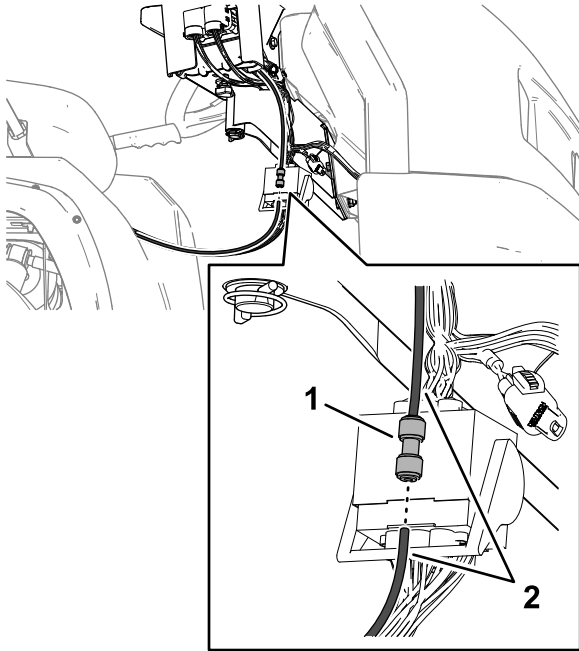

Figure 133
1. Insert the pressure-sense tube into the push-to-connect fitting until it is fully seated (Figure 133).